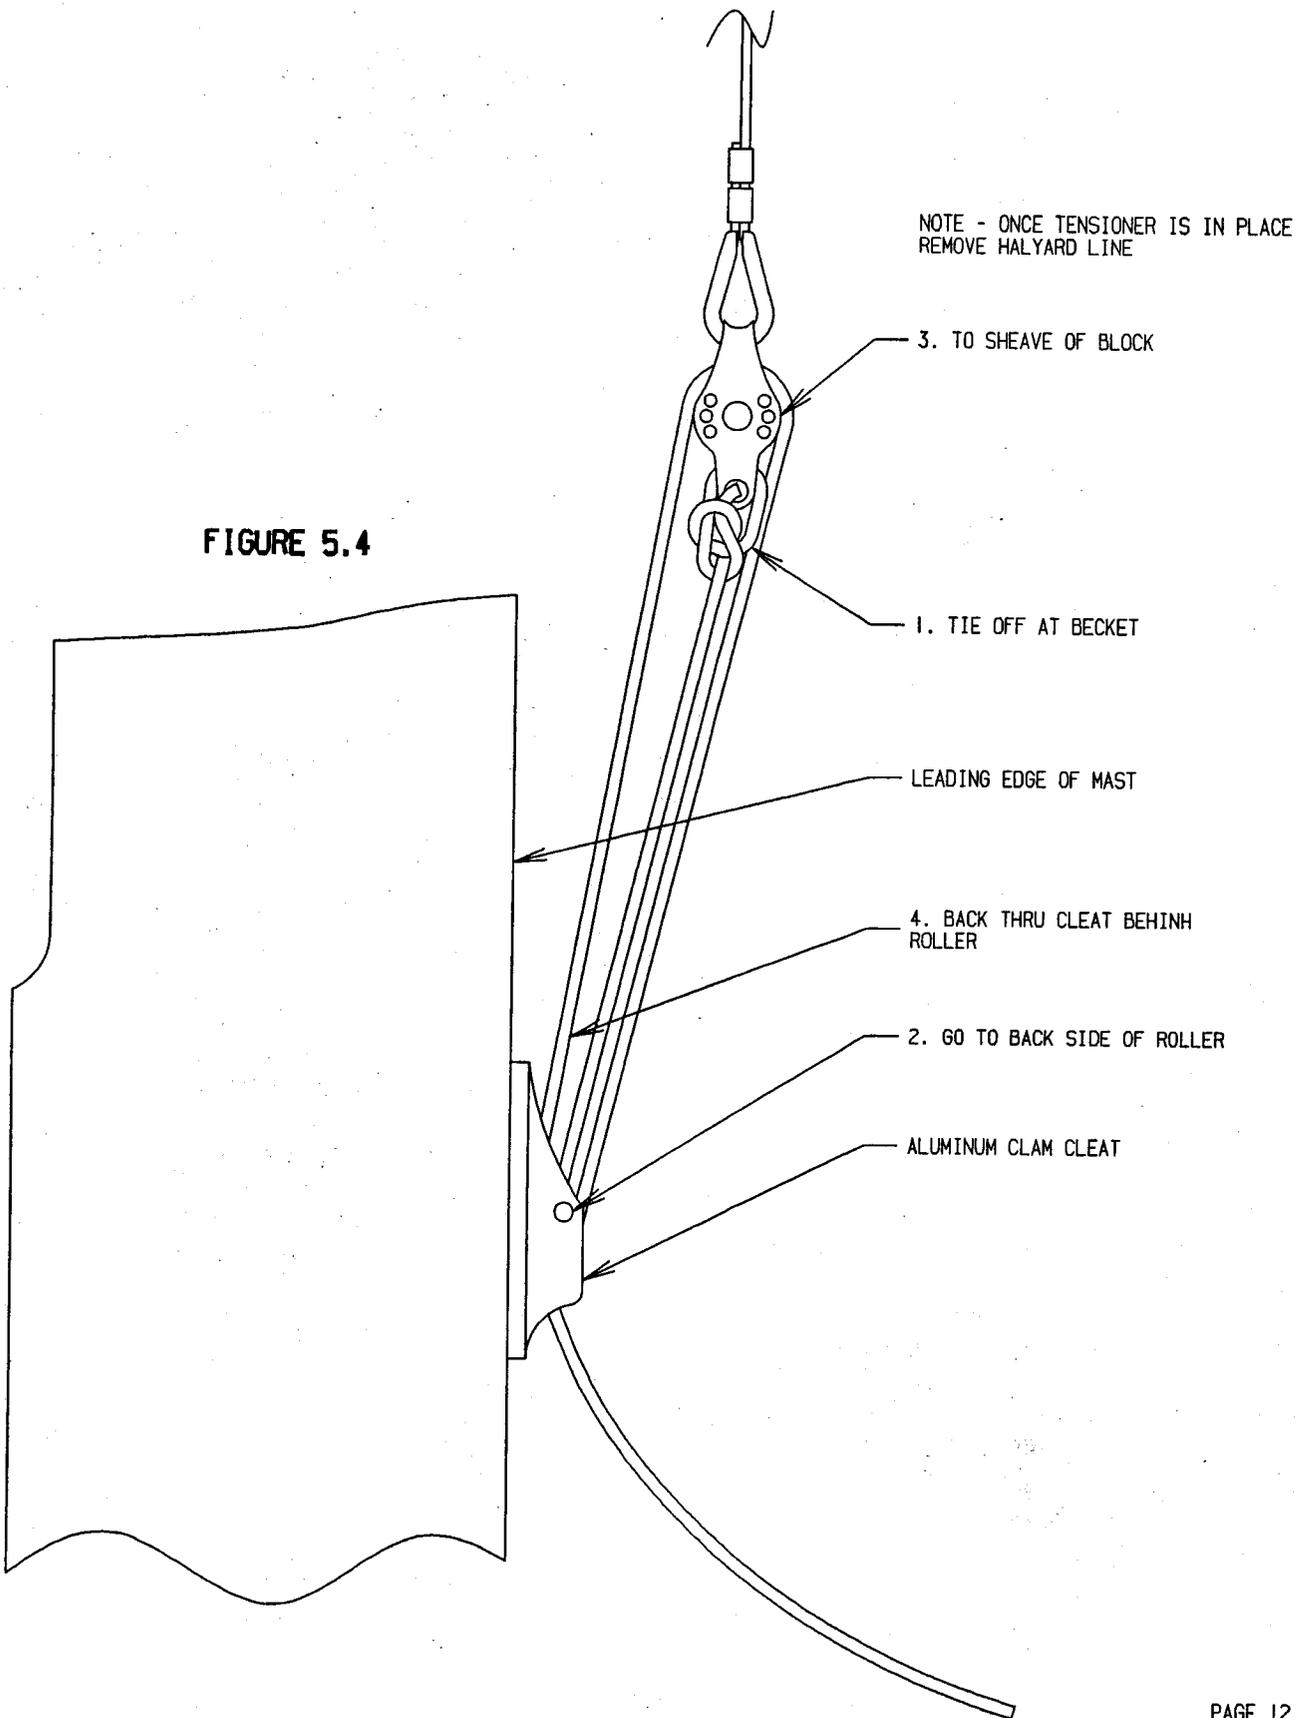

FIGURE 5.4
5.4 RIG THE JIB HALYARD TENSIONER. (FIGURE 5.4)